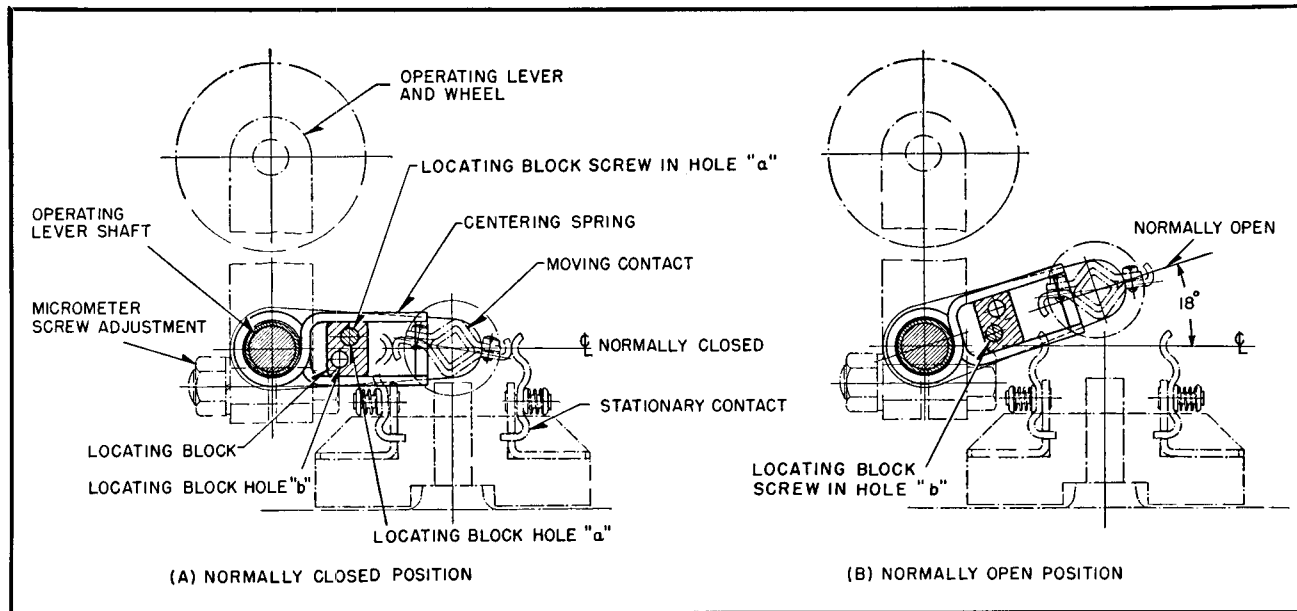

FIG. 2. Adjustment of Contacts for Normally-Closed and Normally-Open Positions.
The moving contact member may be set to either one of the two positions shown in Fig. 2 by changing the position of the locating screw in the locating block.
1. To change the position from "normally closed" as shown in (A), Fig. 2, remove the locating screw from hole "a" of the locating block, depress the operating lever to the left-hand side, and insert the locating screw into hole "b" of the locating block.
2. To change the position from "normally open" as shown in (B), Fig. 2, remove the locating screw from hole "b" of the locating block, depress the operating lever to the right-hand side, and insert the locating screw into hole "a" of the locating block.